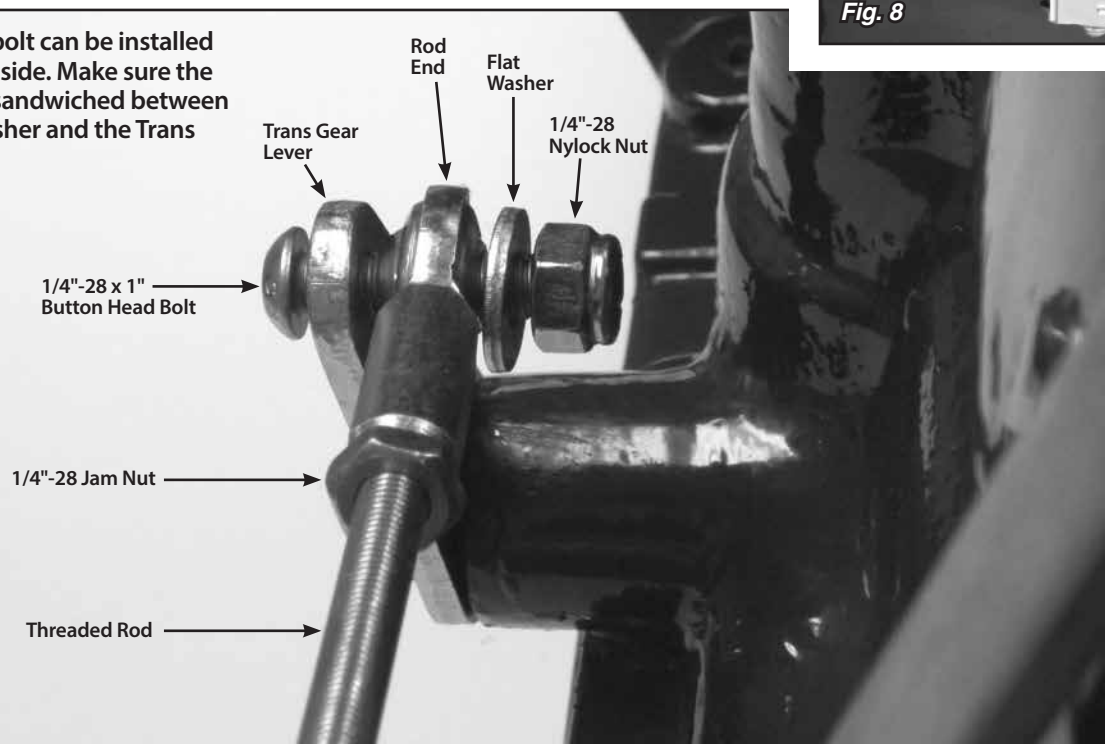

Fig. 9
**Step 14:** Install a rod end onto each end of the threaded rod. Attach the threaded rod assembly to the **inside** of the trans gear lever and to the **outside** of the quad lever using the 1/4"-28 x 1" button head bolts, flat washers, and nylock nuts as shown in **Fig. 9** and **Fig. 10**. The button head bolts can be installed from either direction, but make sure the rod end is sandwiched between the flat washer and the quad lever or trans gear lever.